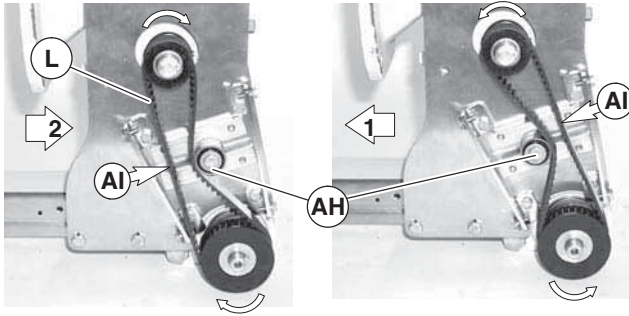
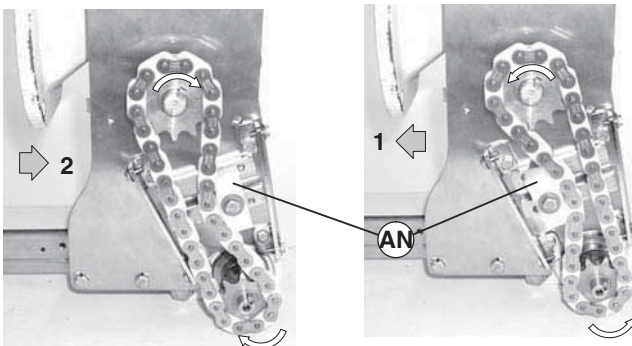

Figure 34
Figure 35
- Loosen belt tensioner (Figure 34, item AH) or chain tensioner (Figure 35, item AN).
- For a Timing Chain** – Slide chain tensioner (Figure 35, item AN) to take up chain slack. Tighten chain tensioner screw to 92 in-lb (10.4 Nm).